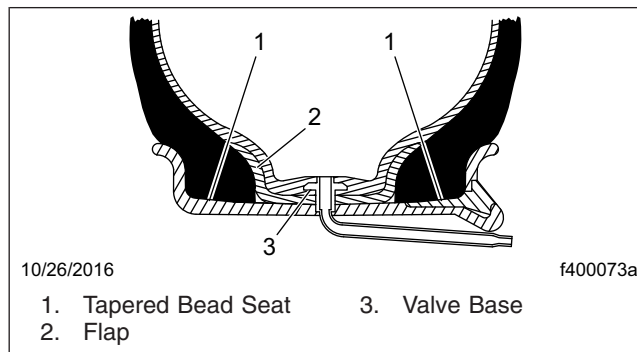

Fig. 14, Beads Pressured Onto the Bead Seat
- Depending on the tire size and rim condition, from 20 to 40 psi (140 to 275 kPa) pressure is needed to push the beads onto the bead seat. See **Fig. 14**.